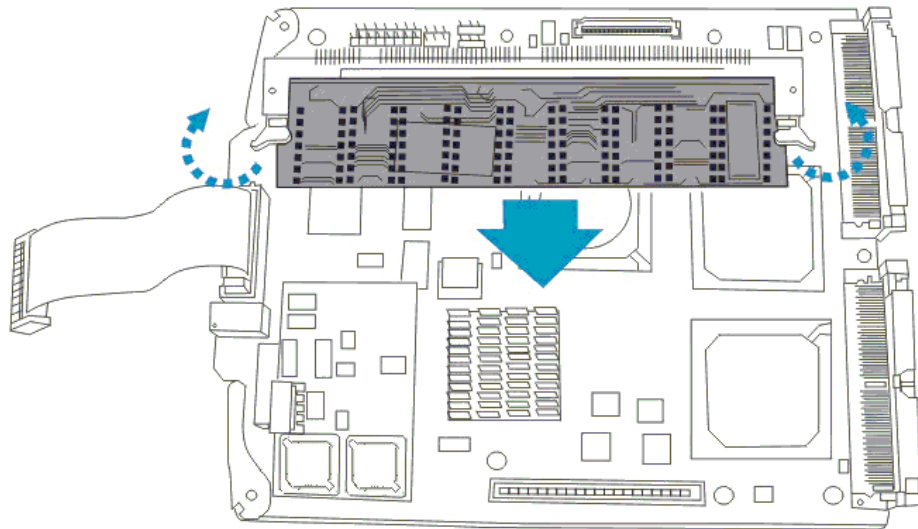

Figure 0-1: Remove DIMM Module
Step 4. Remove the old DIMM module – Once the controller board, the optional the optional daughter board and the optional BBU charger board have been removed, the old DIMM module can be removed. To remove the DIMM module from the controller module, locate the DIMM slot and push the white clips on either side of the slot in an outward direction. This will automatically eject the DIMM module from the DIMM slot. See *Figure 0-1*.